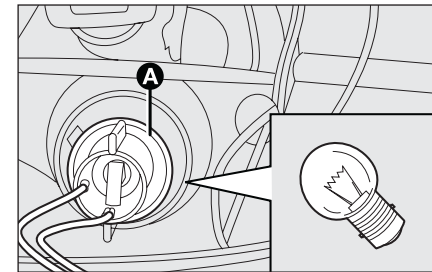

fig. 23
- turn the bulb holder anticlockwise **A** - fig. 23 and pull it out;